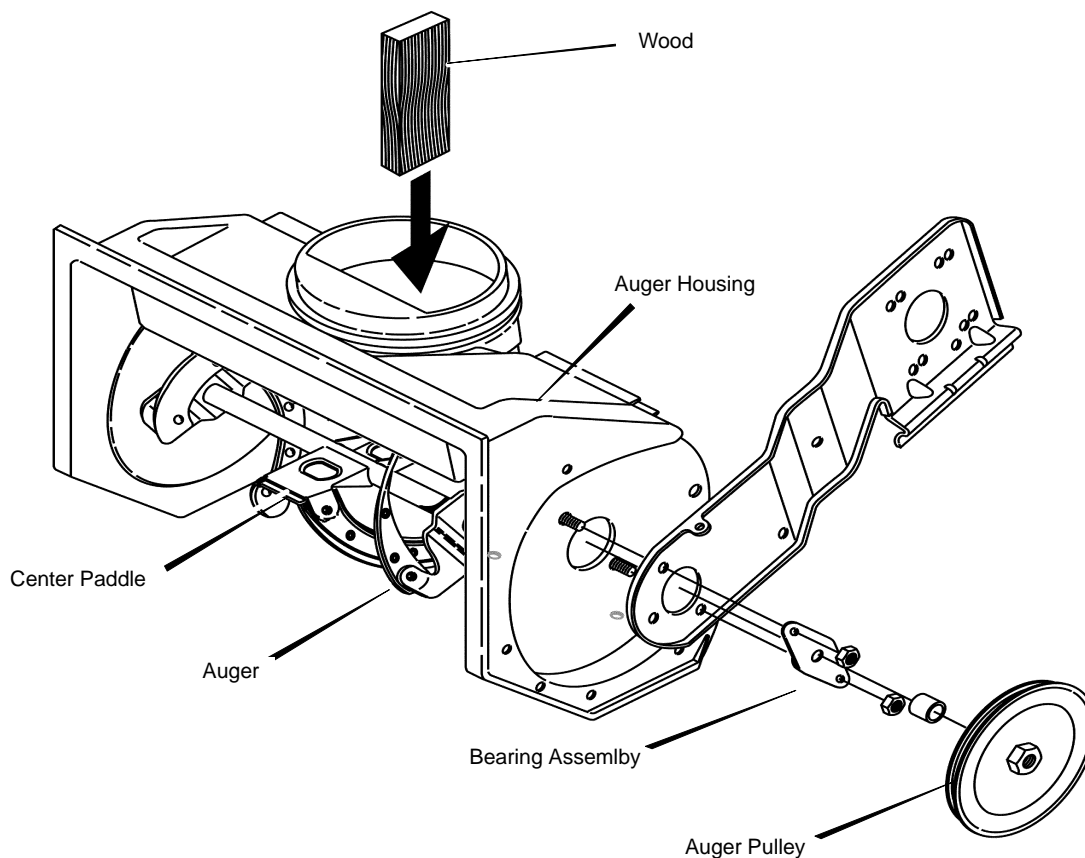

Figure 23
3. Remove the **auger pulley** from the auger shaft (threads are left hand; turn clockwise to remove). (See Figure 23).